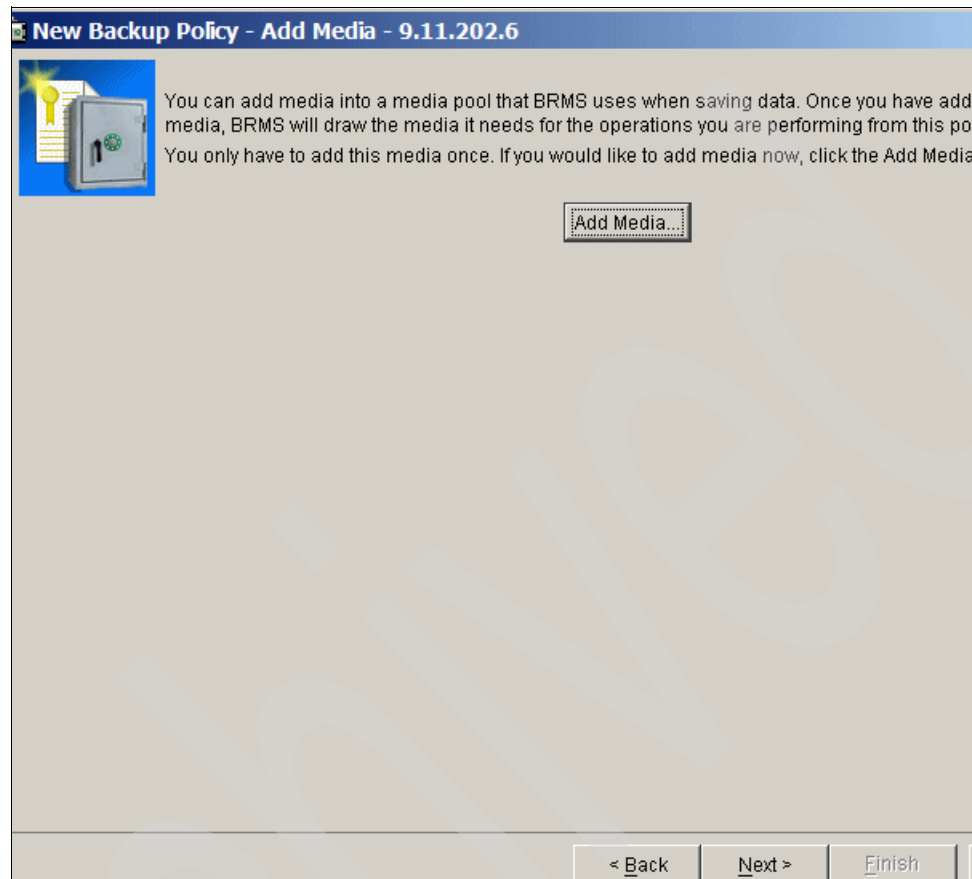

Figure 6-28 New Backup policy wizard - add media
18. Next, specify if you want to add new media to the media pool used. In our example we do not add new media because we already added it before creating backup policy. So we only click **Next**. The wizard window for adding media is shown in Figure 6-28.